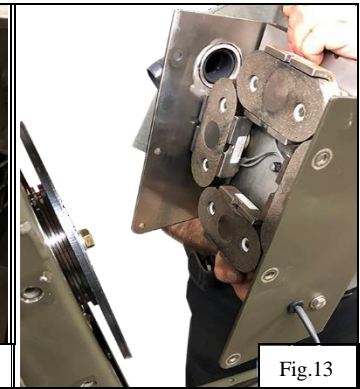

Fig.13
12. Reinstall the brake assembly. **(Fig. 13)** Check the clearance of the brake shoes to the brake plate. The required clearance is .063". We use two strips of .063" material long enough to check the clearance on all four brakes at once. To adjust the clearance, you must loosen the 4 cap screws using a 1/2" socket. Then you screw in the socket set screws until the brake shoes push the .063" strips against the brake plate. **(Fig.14-15)** Now torque the four cap screws to 200 In. Lbs. to secure the adjustment. If you do not have these strips you can loosen the four cap screws with a 1/2" socket and screw the socket set screws in until the brake pads touch the brake plate. Now unscrew the set screws one full turn on each screw and torque the cap screws to 200 In. Lbs. The set screw is 3/8" x 16 threads per inch. One full turn = .063"